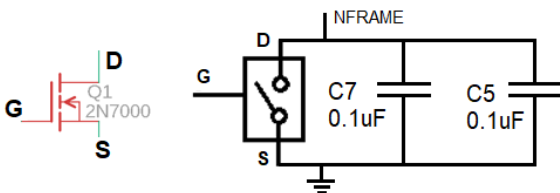

Figure 4: (Left) The schematic of a MOSFET. (Right) The equivalent circuit of the MOSFET in the Deboo Integrator.
Before diving into the interactions between these modules, let's take a moment to understand the behavior and purpose of the MOSFET. The 3-terminals of a MOSFET are called the drain (D), gate (G), and source (S). The left side of Figure 4 shows the schematic view of a MOSFET with these terminals labeled.
We will remove the accumulated charge on the Deboo Integrator's pair of capacitors C7 and C5 by using the MOSFET as a voltage-controlled switch, shown on the right side of Figure 4. The behavior of this switch is given by: